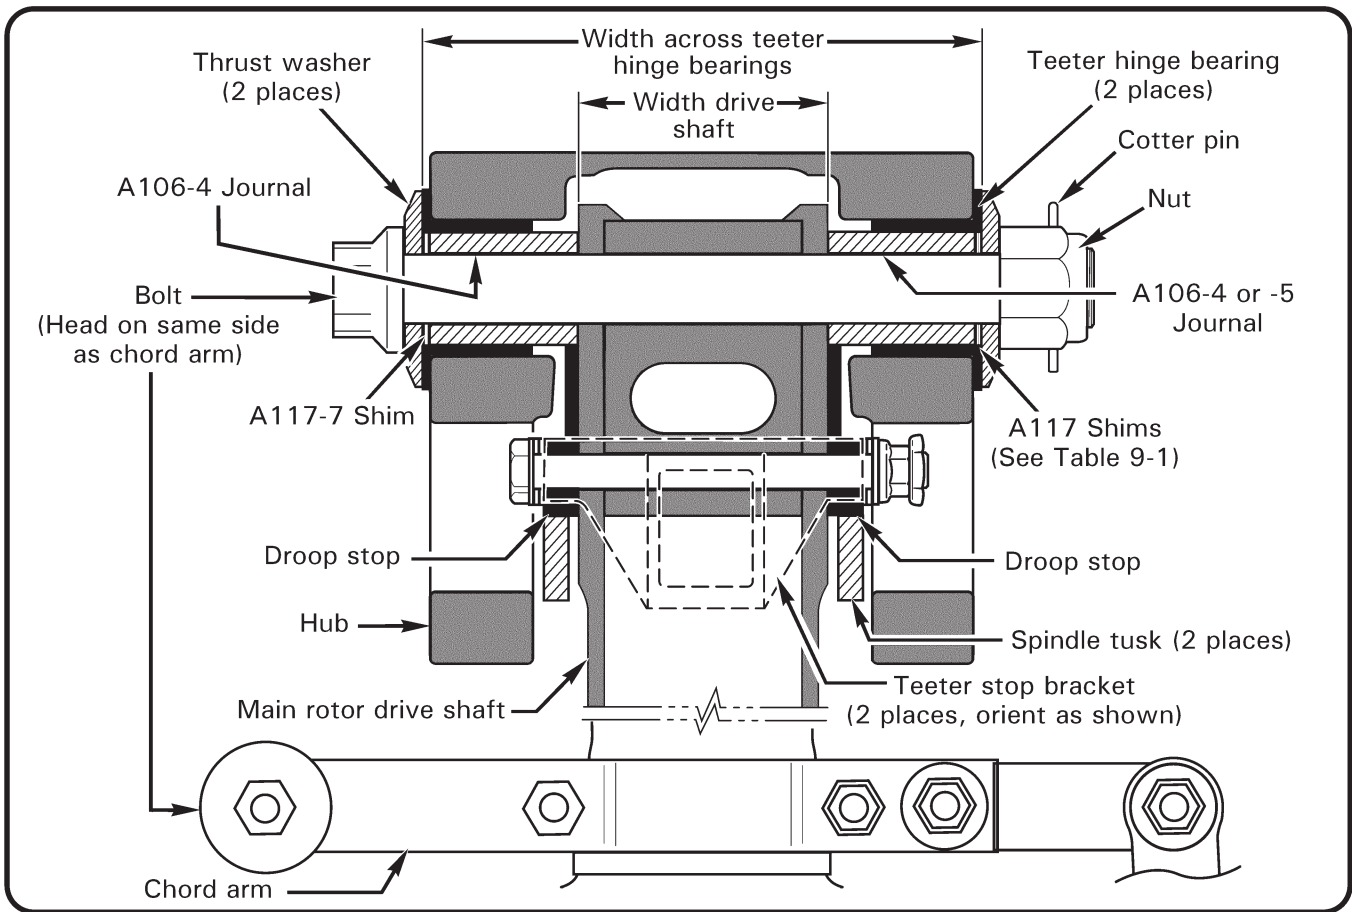

FIGURE 26-5 TEETER HINGE (HUB INSTALLATION)
2. Refer to Figure 26-5. Mark rotor hub using a grease pencil, tape, or soft marker as follows:
3. Refer to Figure 26-5. Line up mark on hub with chord arm on drive shaft. Install teeter hinge bolt, thrust washers, shims, and journals (if previous installation information is available, install parts exactly as removed).
2. Refer to Figure 26-5 and Table 26-1. Remove cotter pin, nut, thrust washer, and nut-side A117 shims. Adjust teeter hinge friction by changing nut-side shim stack thickness in small increments; reducing shim stack thickness increases friction, increasing shim stack thickness reduces friction. Install shims, thrust washer, and nut.